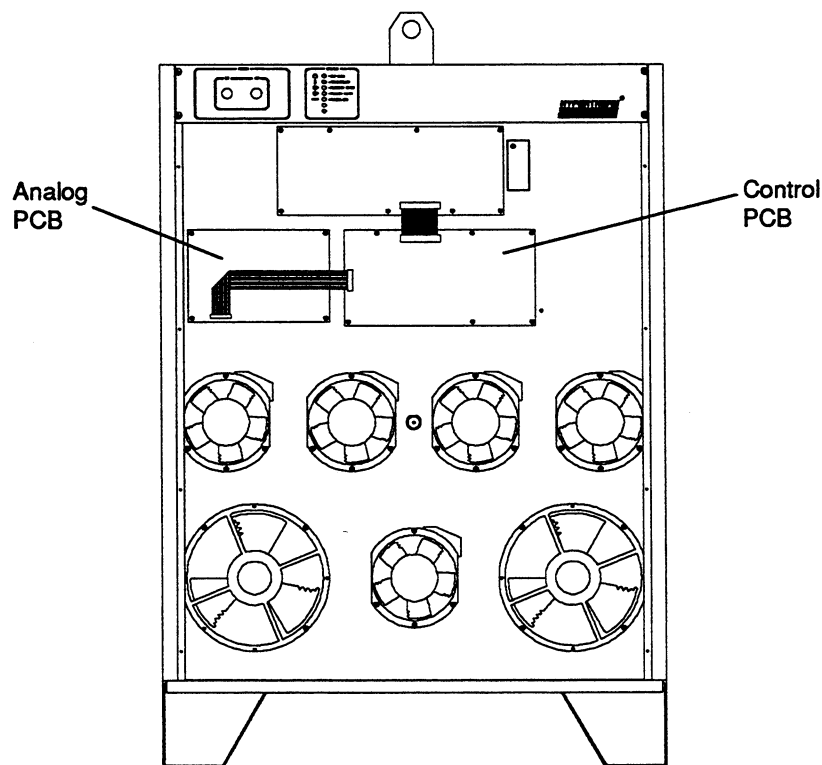

Figure 11 Analog PCB and Control PCB Locations
3. Find Analog PCB (PCB3) and Control PCB (PCB2). See Figure 11.